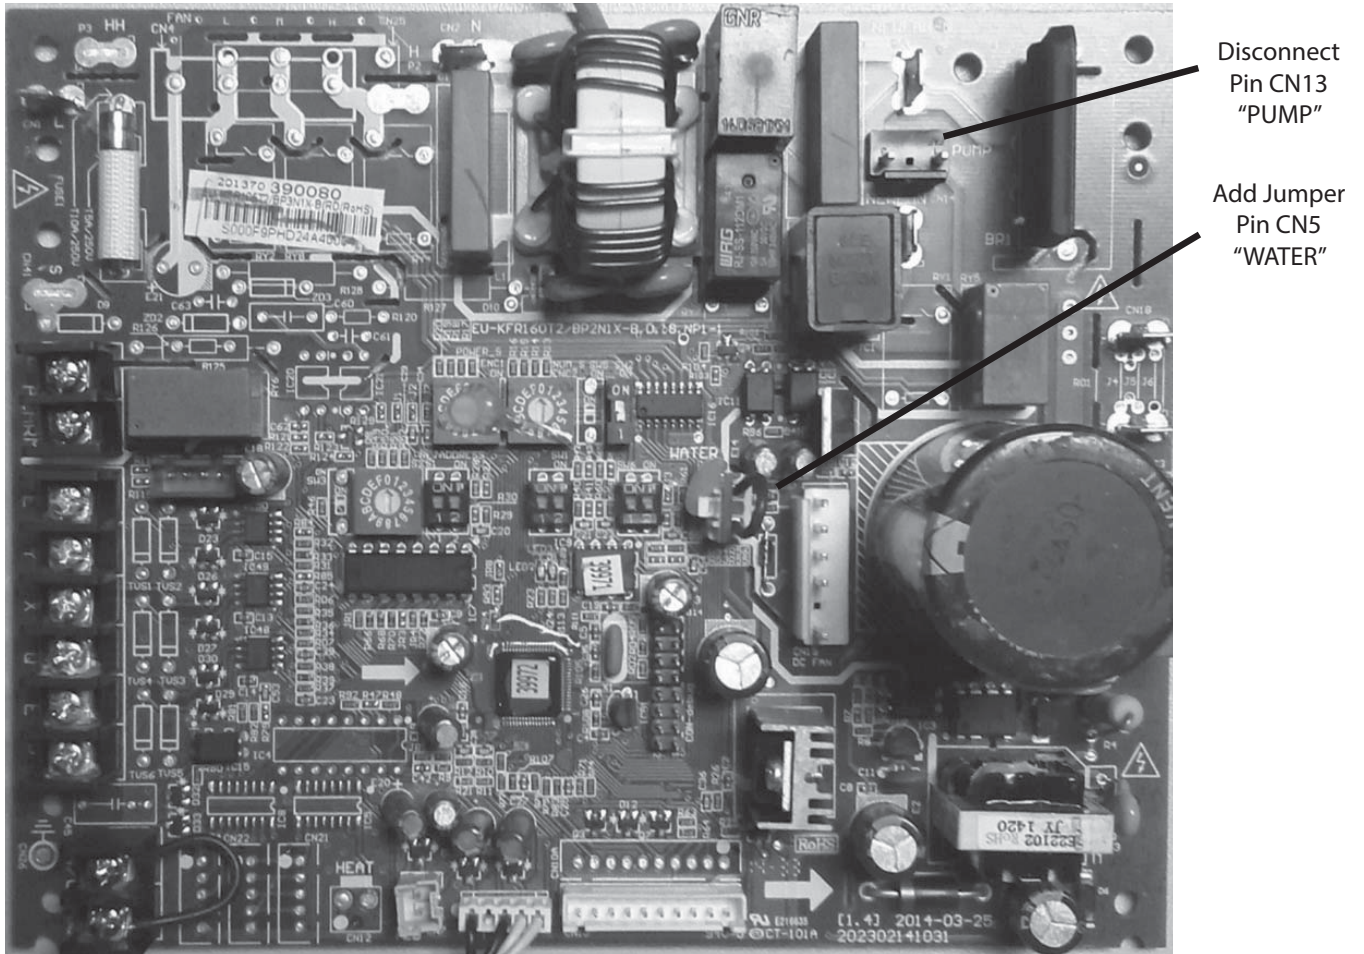

**Fig. 14 – Tube/Pipe Insert**
2. Using a piece of tubing or pipe, fill the drain pump reservoir with 70 oz. of water (see Fig. 14).